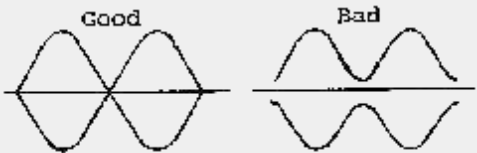

Figure 2
7. Adjust TC4 (CAR1 8.8315 KHz for USB) so that complete tone waveform is observed, as shown in figure 2. Return to REC, and resolder D124.
9. Set STBY to SEND and adjust TC3 (CAR2 8.375MHz) so that a complete two tone signal is displayed, as in Figure 2.